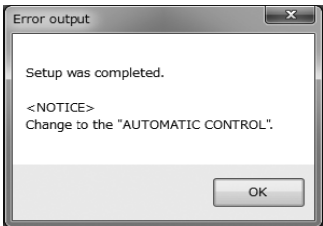

Fig.56
- ⑥ Click "OK" to change the settings to the selected values, and then click the "OK" button in the displayed message box (Fig. 56) to complete the setting process.